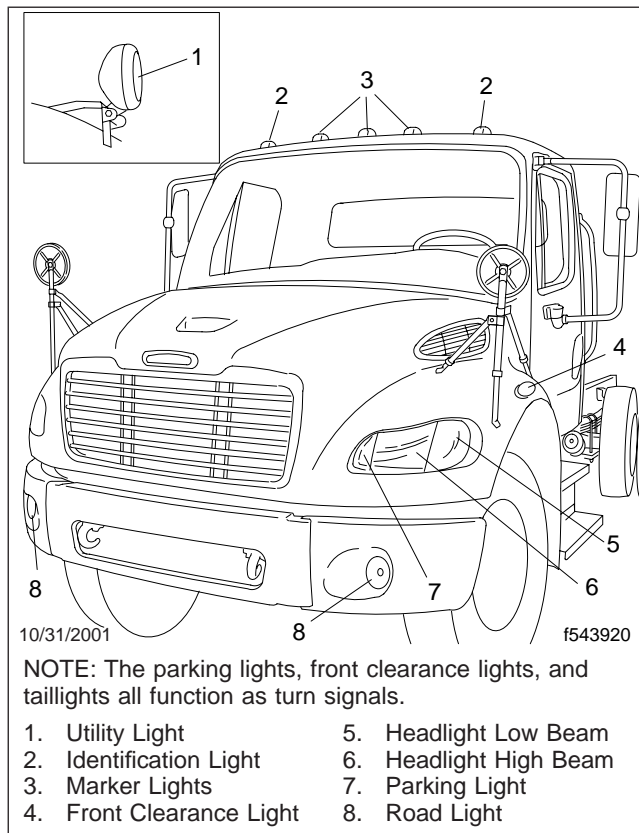

Fig. 11.7, Exterior Lights
11. Check the operation of all exterior lights. See **Fig. 11.7**.